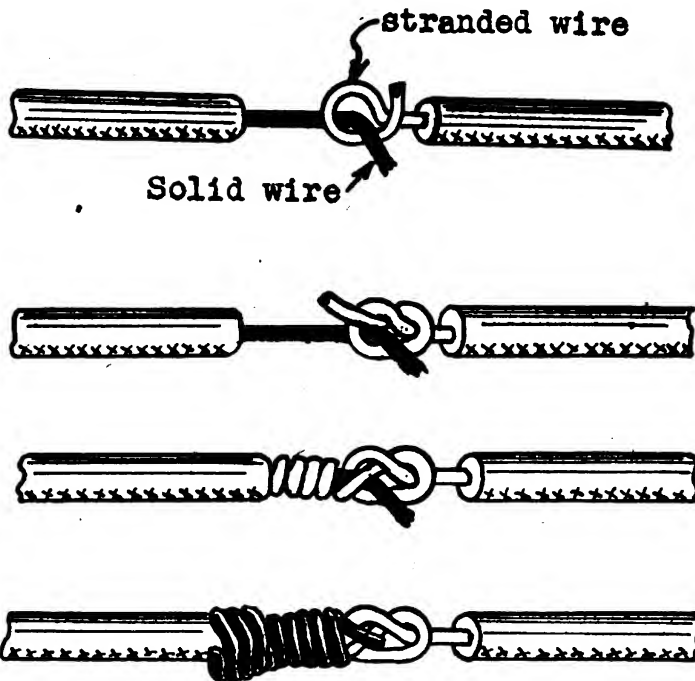

FIGURE 45.—Stranded wire splice.
*e.* Sometimes it is necessary to splice a stranded conductor to a solid one. Figure 45 illustrates a method which will stand considerable tension.